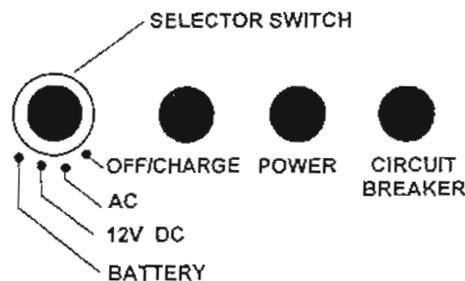

Figure 2-1. Operating mode selector switch.
a. *Operating mode selector switch (fig 2-1).* This four-position rotary switch is the electrical control switch to start and stop operation of the suction apparatus, the operating voltage selector switch, and the internal battery recharging control switch. The functions of the four switch positions are as follows: